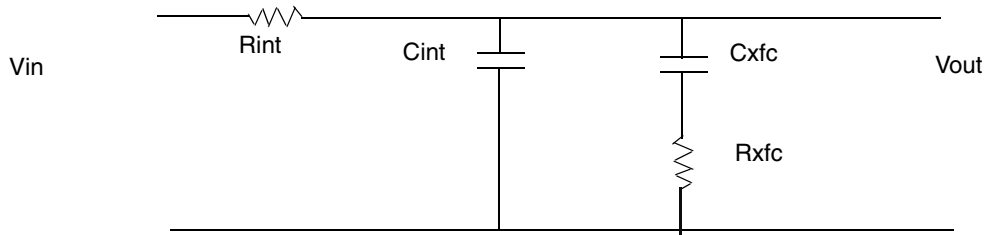

Figure 7. PLL loop filter with $R_{x_{fc}}$
The loop gain (K) and loop bandwidth (ω) cannot be independently selected because a change in one of the parameters will have an adverse effect on the other parameter. Therefore, to allow independent change in (K) and (ω), a component of $R_{x_{fc}}$ is added to the PLL low pass filter. See Figure 7.